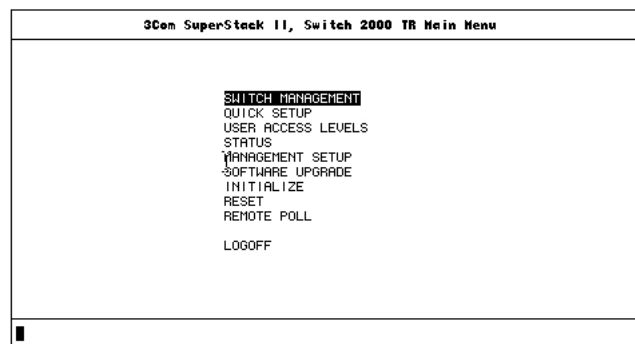

Figure 3-7 Main Menu
- 5 Select OK. The Main Menu appears. See Figure 3-7.